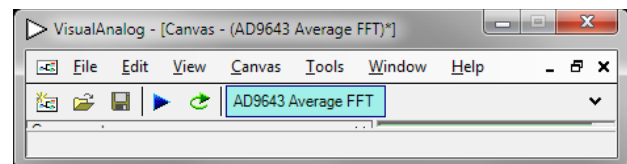

Figure 6. VisualAnalog Window Toolbar, Collapsed Display
4. Detailed instructions for changing the features and capture settings can be found in the AN-905 Application Note, VisualAnalog Converter Evaluation Tool Version 1.0 User Manual. After the changes are made to the capture settings, click the **Collapse Display** button (see Figure 6).